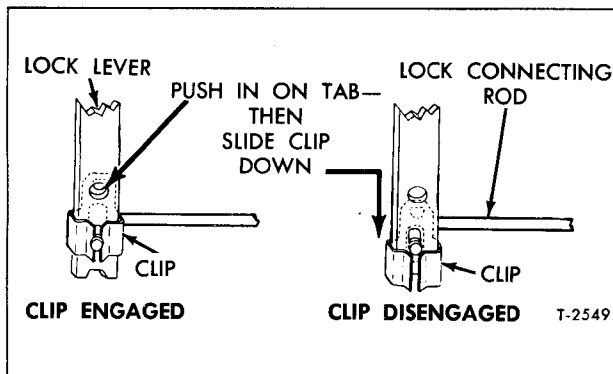

Figure 21—Disengaging Door Pull Rod Fasteners
7. Separate rods from lock mechanism if desired. To disengage pull-rod fastener, force lock tab of fastener outward through small hole in lock release lever as shown in figure 21, then slide fastener from lever.